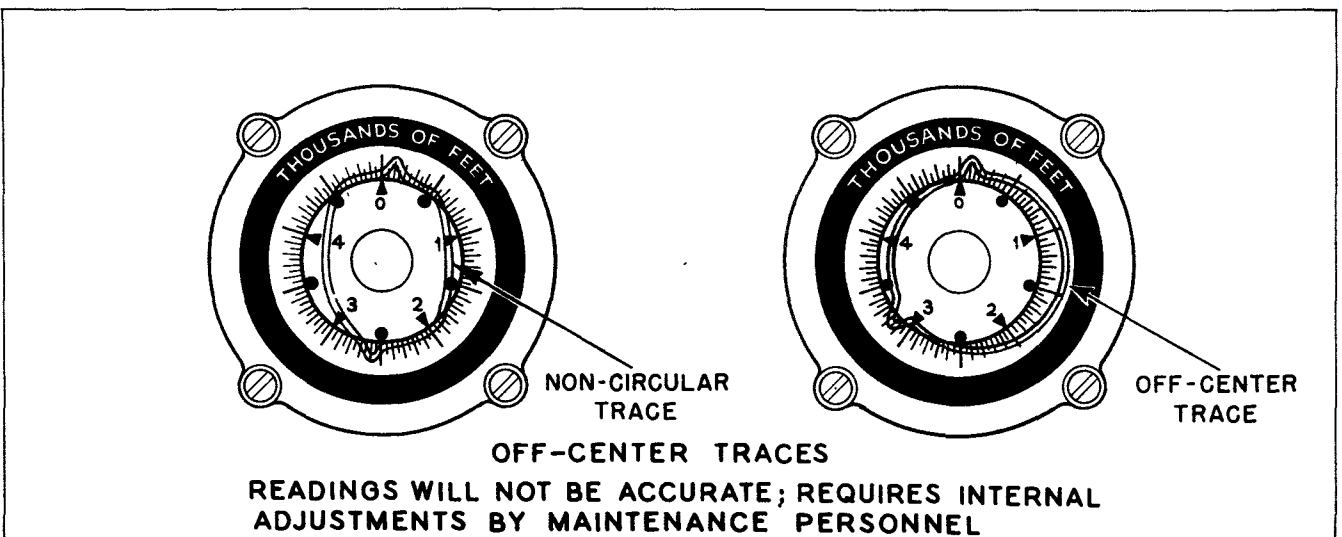

Figure 3-2. Circle Shape
- a. A circle trace which is not truly circular. (See figure 3-2.)
- b. A circle trace which is off center. (See figure 3-2.)